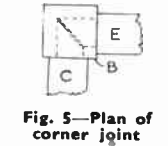
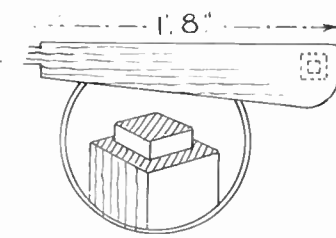

Fig. 5—Plan of corner joint
Fig. 3—Shape and joint of arm
The two front uprights (A) should first be set out, and these are 1ft. 11ins. long. This measurement allows for a stub tenon on the top to fit into the arm rests, see the enlarged detail in Fig. 3. The lower end of the upright is tenoned into the rocker or the ground rail, whichever method is adopted.
take the ends of the arm rests, the tenons of which are shown in the upper diagram in Fig. 3. Mortises will also be cut in all four uprights to take the cross rails (C), (D), (E), (F) and (G) and where rails (C) and (E) meet in the back upright, the ends of the tenons will be cut to an angle of 45 degrees, as seen in the detail Fig. 5. The other tenons will be plain and look like that shown in Fig. 6.
For the arm rests two pieces of ¾in. wood 20ins. long by 4ins. wide will be required. They will be shaped with the fretsaw to the outline given in Fig. 3, the